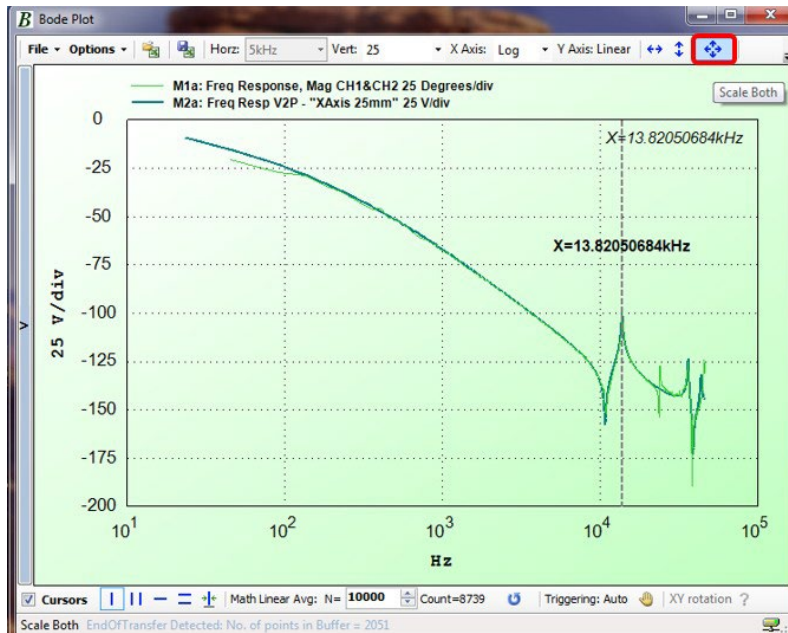

Figure 3 - Bode Plot Displayed in the Virtual Scope
3. You will see the TM2 software showing the scan head going through 'MirrorAlign' and 'AutoCharacterization' processes. After that, the virtual scope window displaying the Bode Plot of the X axis will pop up (Figure 3). You may need to click on 'Scale Both' to bring both the theoretical (dark green) and measured (light green) frequency response plots inside the scope screen.
- You can use the vertical cursor to measure the primary resonant frequency. In the example shown in Figure 3, the primary resonant frequency of the X axis is measured to be 13.8kHz.